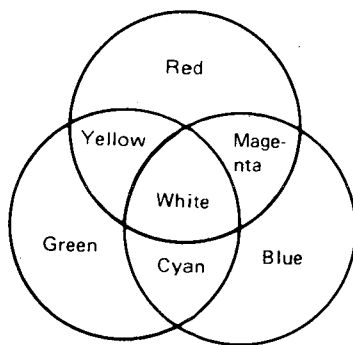

Fig. 1-7 Complementary Color
Let's consider the light output from the stripe filter. The cyan filter cuts off the red(R) light which is complementary to it, and the yellow filter cuts off the blue(B) light which is complementary to it. (Fig. 1-7).